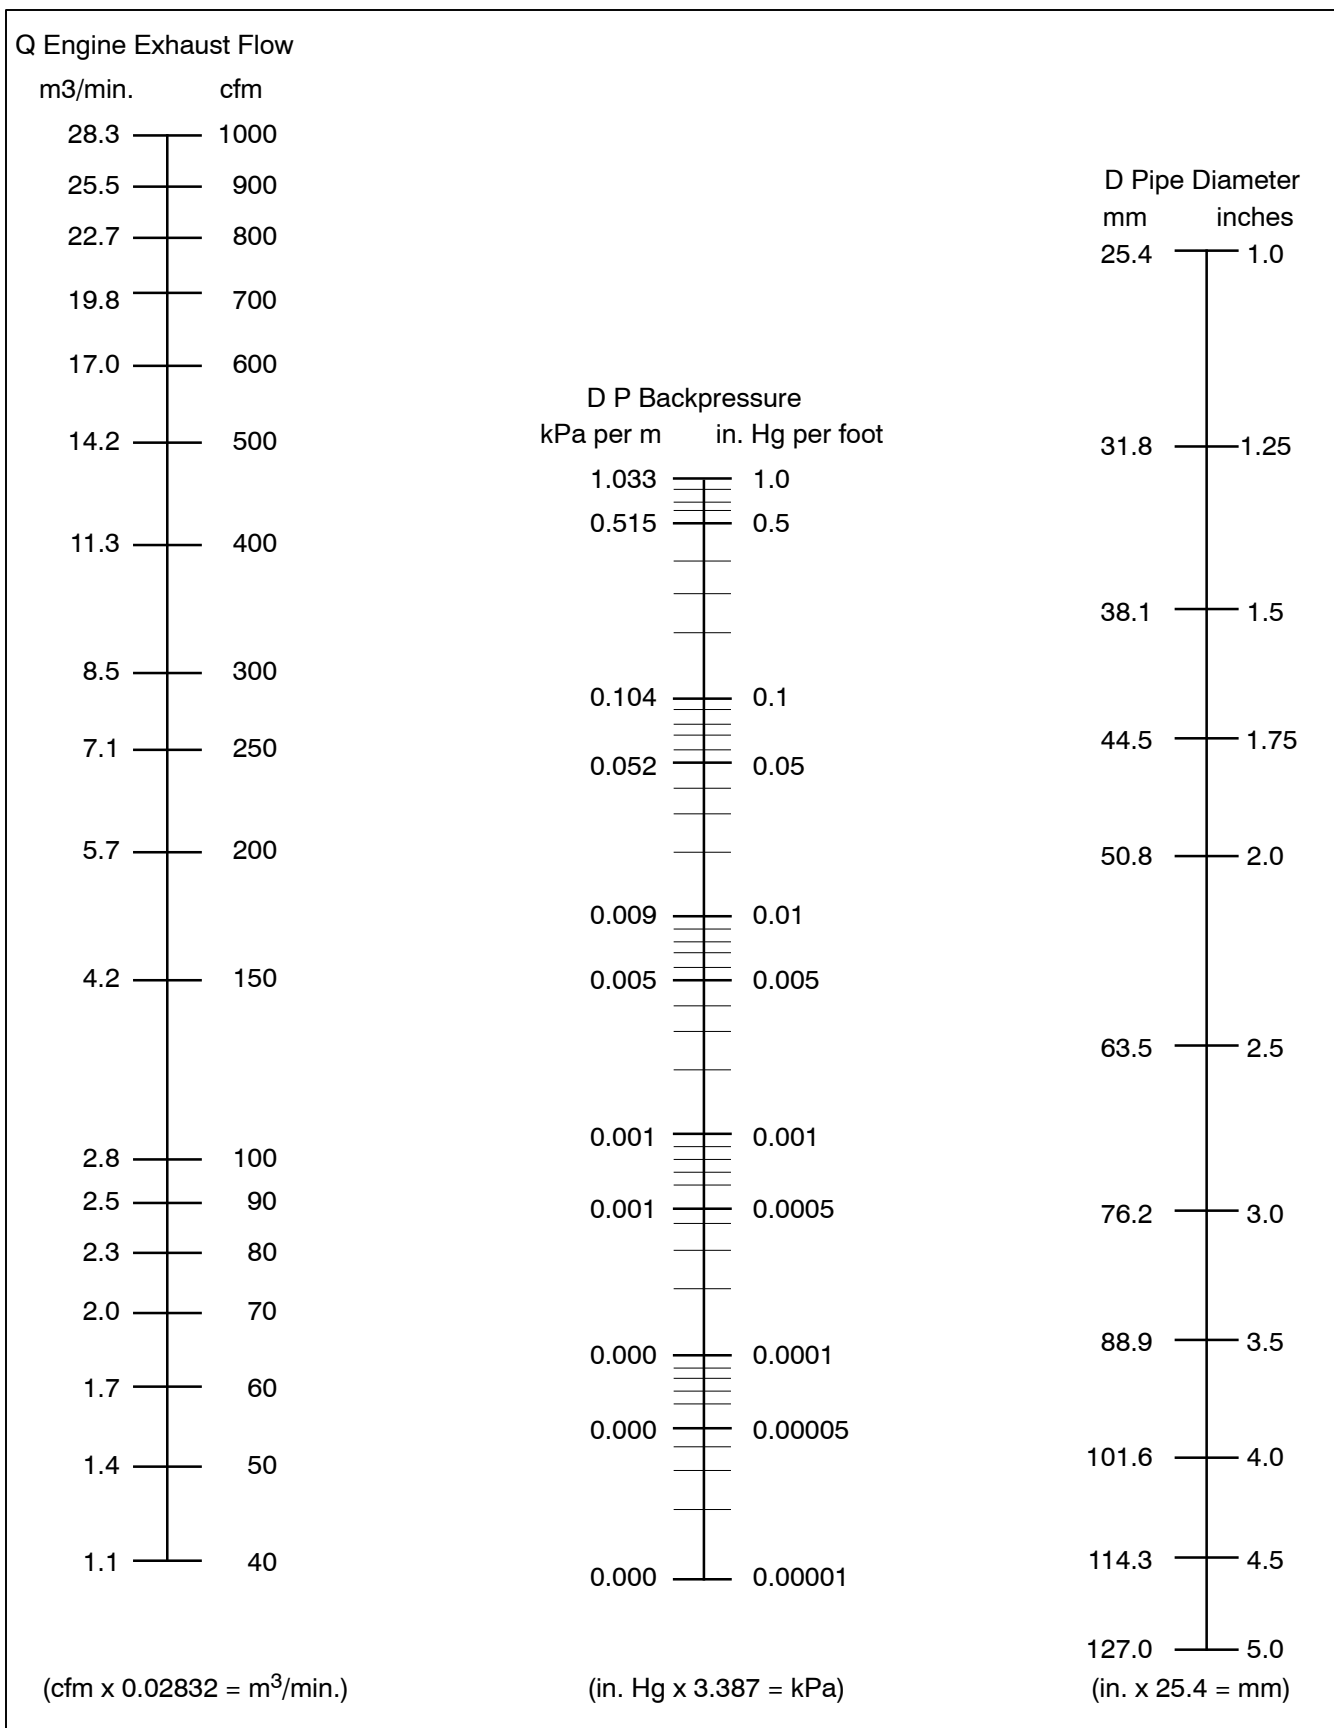
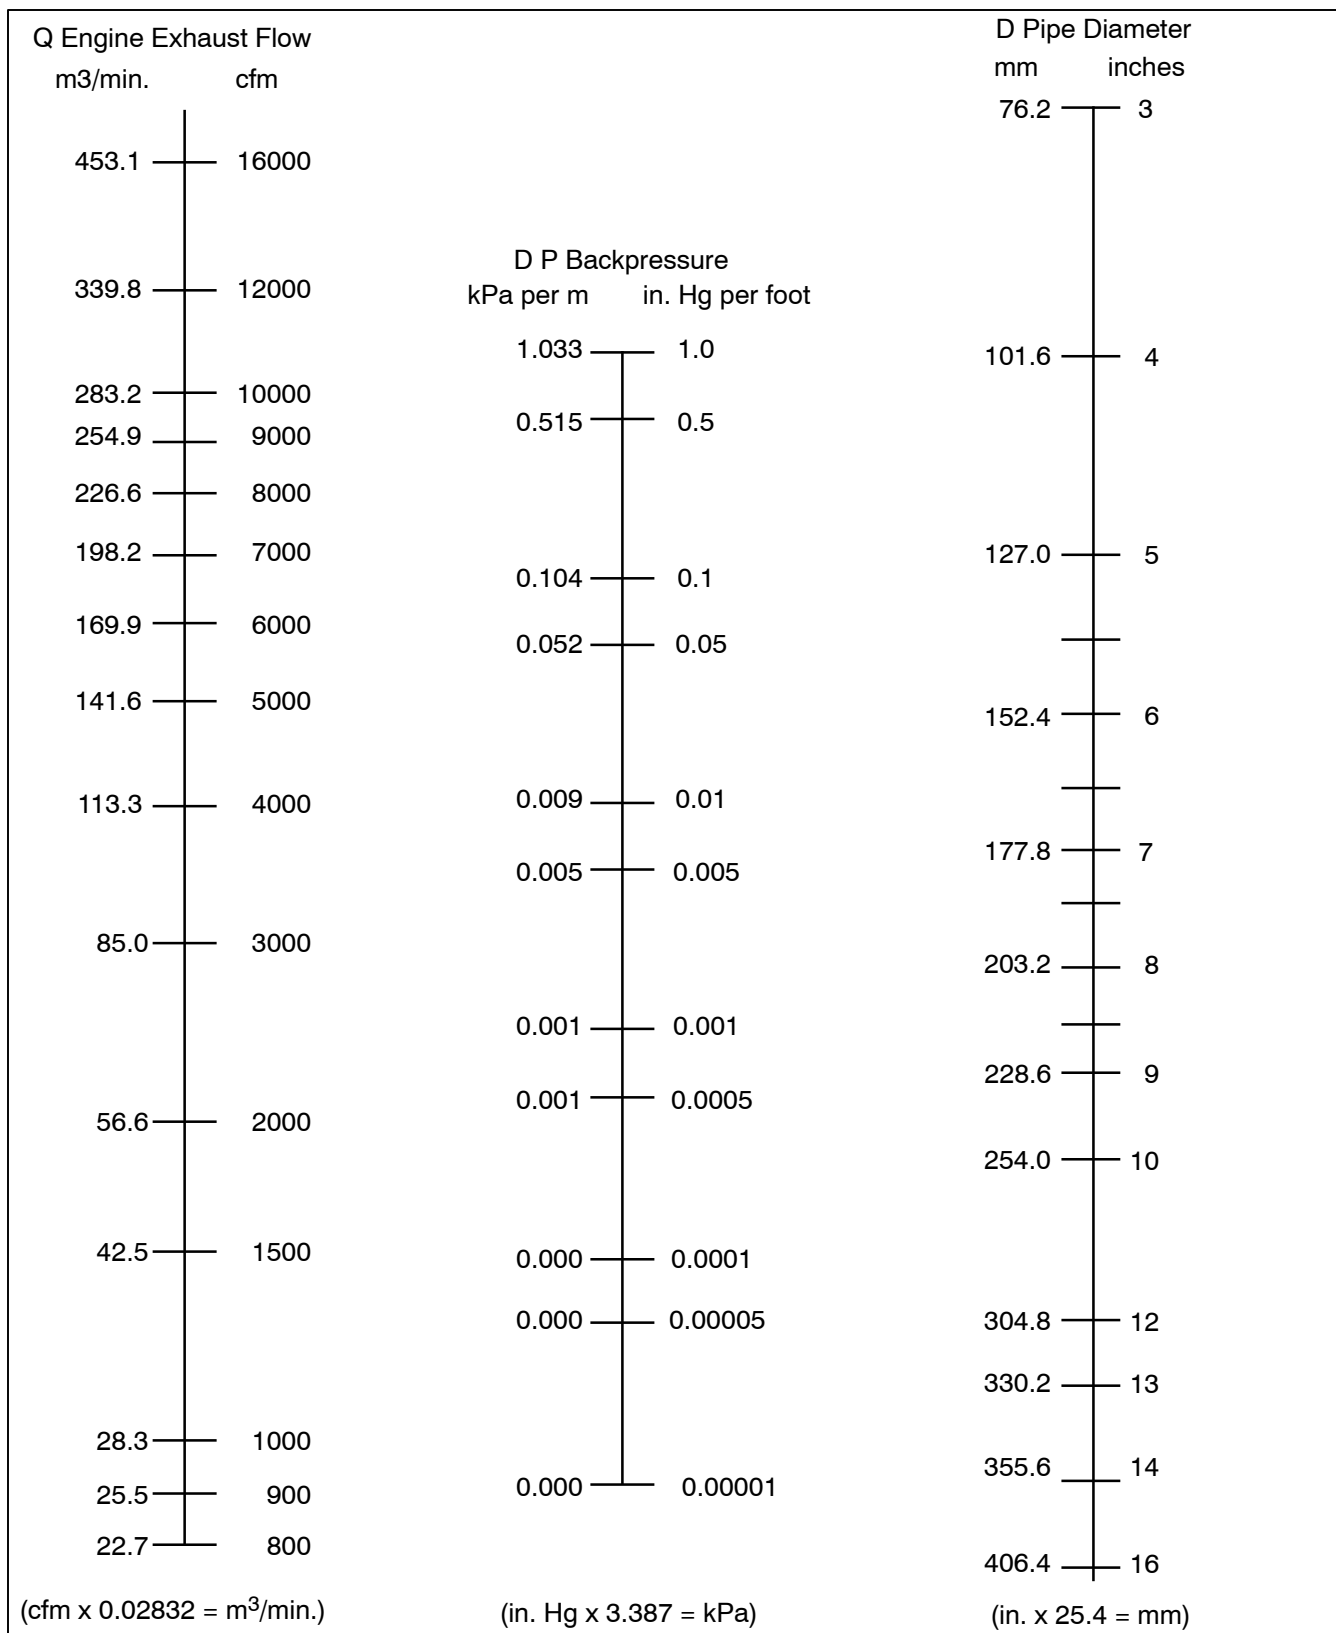

Figure 5-9 Backpressure using Pipe Size 4 in. (102 mm) or Less
Figure 5-10 Backpressure using Pipe Size 5 in. (127 mm) or Larger
8. Refer to Figure 5-9 if the pipe size is 102 mm (4 in.) or less or Figure 5-10 if the pipe size is 127 mm (5 in.) or larger.